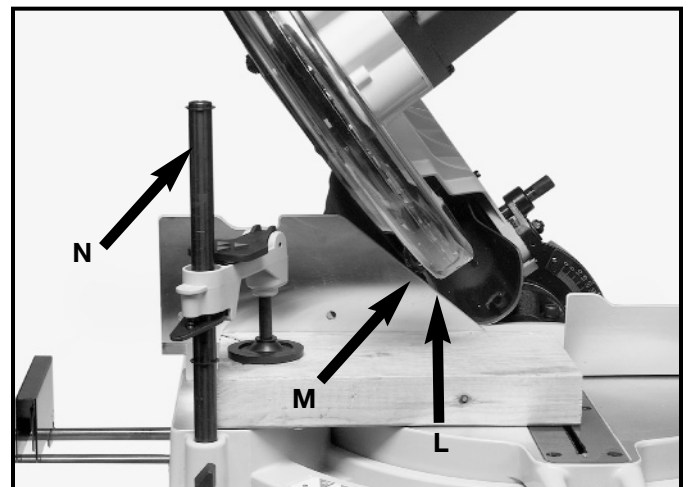

Fig. 7F
⚠ WARNING MAKE SURE THAT FENCE (M) Fig. 7F AND WORK CLAMP (N) Fig. 7F ARE CLEAR OF GUARD AND BLADE (L) Fig. 7F BEFORE OPERATING SAW.